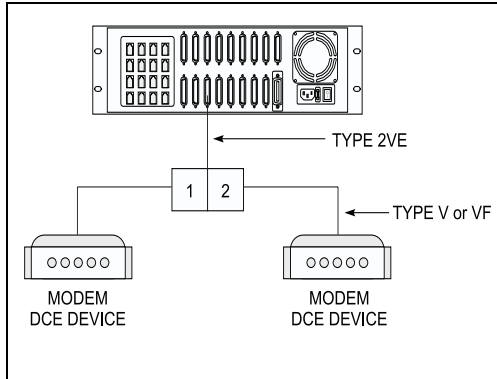

Figure 4-65 Type 2VE Cable
Figure 4-65 illustrates the cable connections for the Type Y(63) cable.
The Type 2VE male DB25 connector is attached to an IEN 2000, IEN 3000, IEN 4000 or IEN 5000 chassis port that corresponds to the slot occupied by the CID61-Dual port processor. Each female DB25 connector requires a Type V or VF cable which is then attached to the V.35 DCE device. Figure 4-65 illustrates the use of the Type 2VE cable.